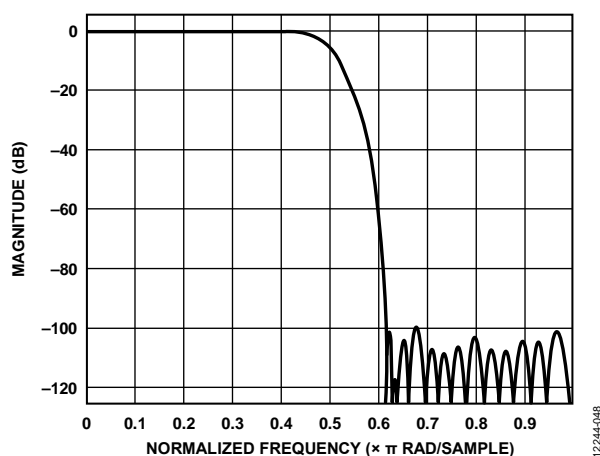

Figure 88. HB1 Filter Response
The decimate by 2, half-band (HB), low-pass FIR filter uses a 55-tap, symmetrical, fixed coefficient filter implementation, optimized for low power consumption. The HB filter is enabled when the DDC is selected. Table 10 and Figure 88 show the coefficients and response of the HB1 filter.